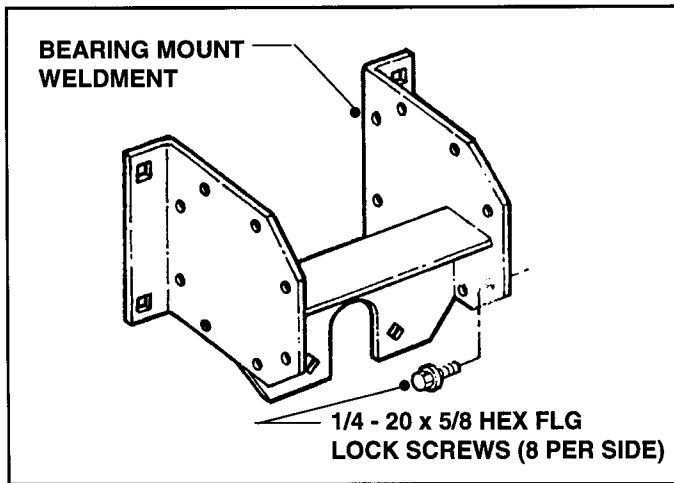

FIGURE 6.9
- H. Place a five (5) gallon container beneath Hydraulic Hose connection of Transaxle being removed. Using cutters or a sharp utility knife, cut Hose located at bottom of Transaxle.
- J. Remove the eight (8) 1/4 - 20 x 5/8 Hex Flange Lock Screws from inside the Bearing Mount Weldment. See Figure 6.9 on following page.